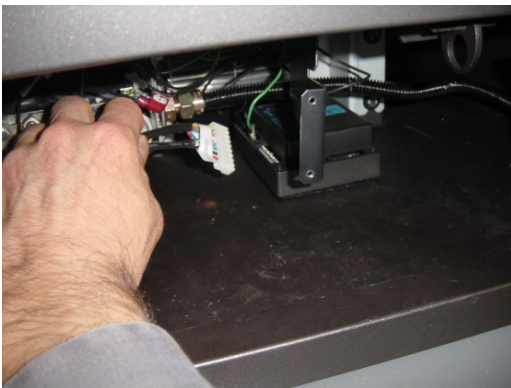
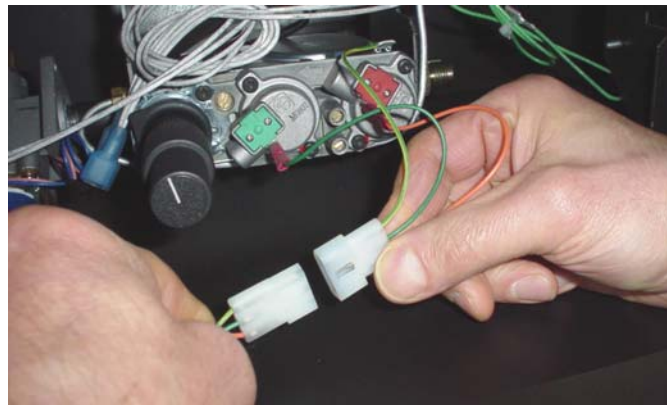

Figure 16
Figure 17
- 12 Attach the wiring harness to the burner control (see Figure 16). Attach the gas control valve molex connector (see Figure 17).